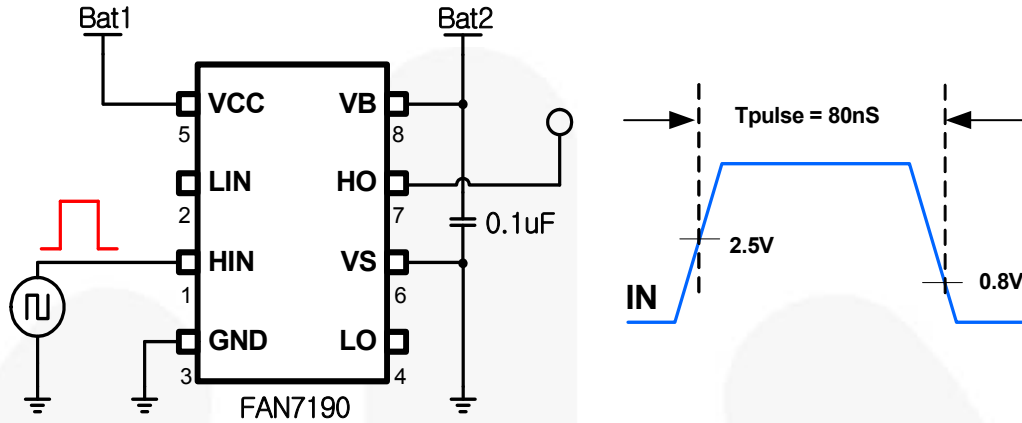

Figure 28. Short Pulse Width Test Circuit and Pulse Width Waveform
- Guaranteed by design. Refer to Figure 28,29 and 30 on page 11